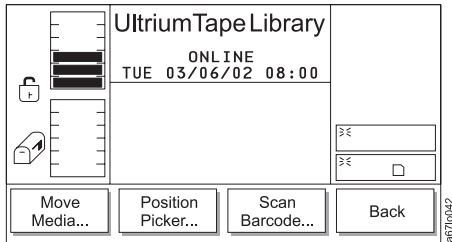

Figure 4-68. Move Submenu
2. Press the button below the **Move** softkey. The Move Submenu displays (see Figure 4-68).
5. To return to the Move Submenu (see Figure 4-68 on page 4-41), press the button below the **OK** softkey. To return to the Main Menu press the button below the **OK** softkey, then press the button below the **Back** softkey until the Main Menu displays.